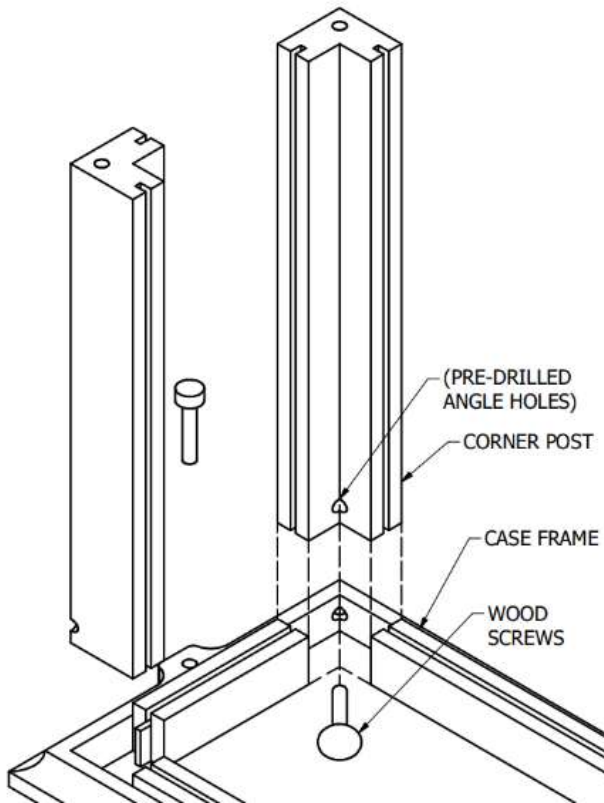

Figure 2: Corner Posts Assembly
- C. Insert corresponding Corner Posts fully into Case Frame. (See FIG 2)